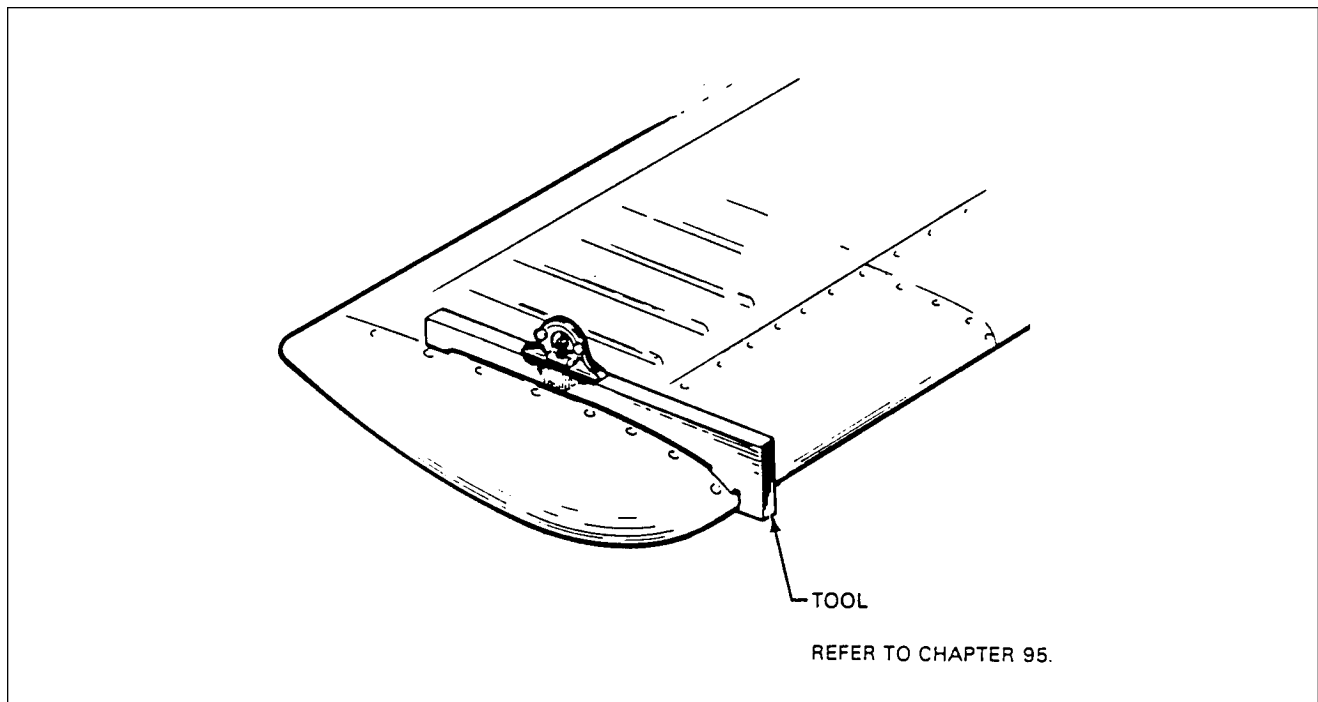

Figure 27-16. Stabilator Rigging Tool
- a. Check stabilator travel by placing a rigging tool on upper surface of stabilator as shown in figure 27-16. (This tool may be fabricated, for dimensions, refer to chapter 95.)